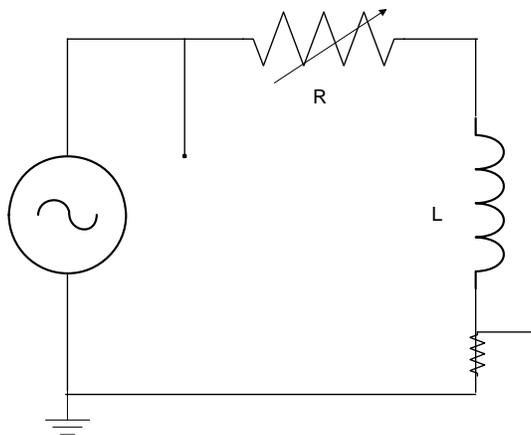

Fig. 2. The experimental RL circuit. L=100 mH.
4. (a) Construct the circuit of Figure 2. Set the source to the same values as in the previous circuit.